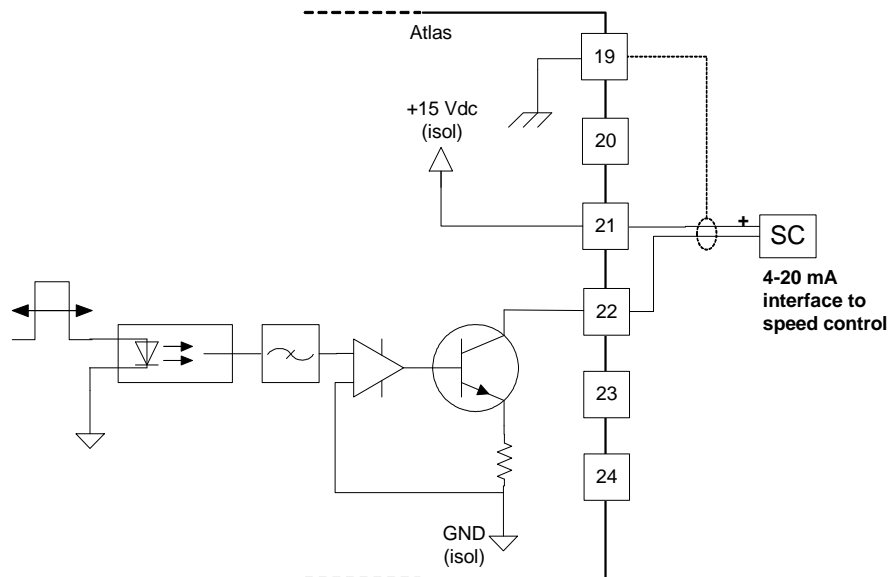

Figure 6-11. Wiring Example—Speed Bias Output Interface
- Refer to Figures 6-11 and 6-12 for Speed Bias Output wiring. Wires must be shielded.